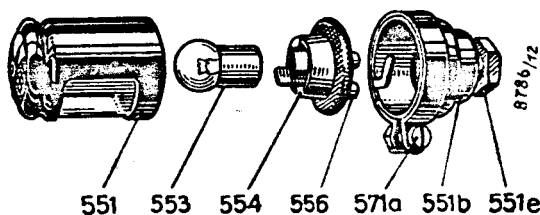

Fig. 10. Number-plate lamp JN 5, dismantled
a) Number plate lamp JN 5 (Fig. 10)
1. Loosen tension screw (Fig. 10).